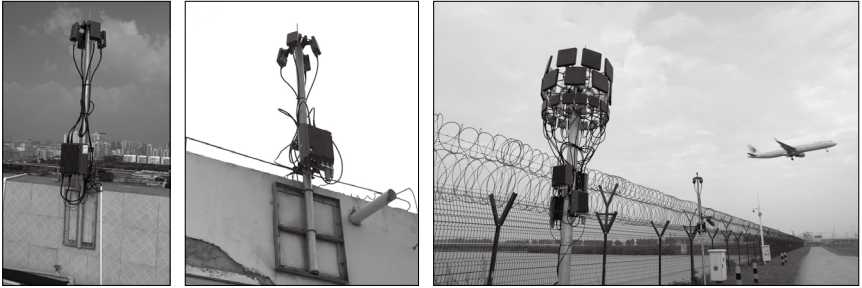

Figure 1 Installation examples
1. The pole should be firmly fixed to the ground (or other solid surface such as a rooftop). The diameter of the pole plus the insulation layer should be 120 mm to utilize the frames supplied with the stationary unit and antennas. Figure 1 shows some real examples of Aeroscope stationary unit installation sites.